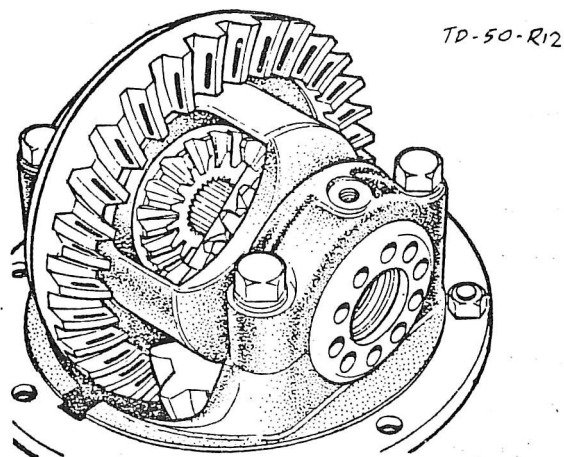

Fig. 12. CORRECT TOOTH CONTACT
20. To check the tooth contact of the crown wheel and pinion apply a thin coat of read lead, yellow ochre or engineers blue to the crown wheel teeth. Fit the inboard drive shafts to the differential gears and rotate the pinion in both directions, holding the shafts to provide a load. If the crown wheel and pinion have been adjusted correctly, the area of contact will be as shown in Fig.12. Incorrect markings are shown in Fig.13.